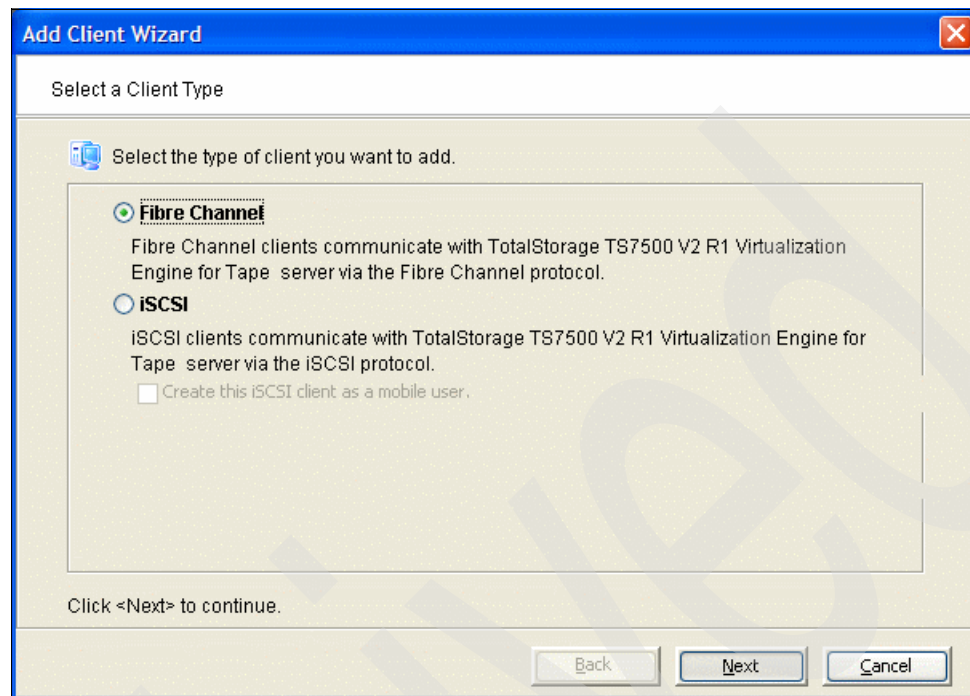

Figure 6-53 Adding SAN clients: select client access method
2. In the window shown in Figure 6-53, select the access method to be used by the SAN client. We chose Fibre Channel. Click **Next**.